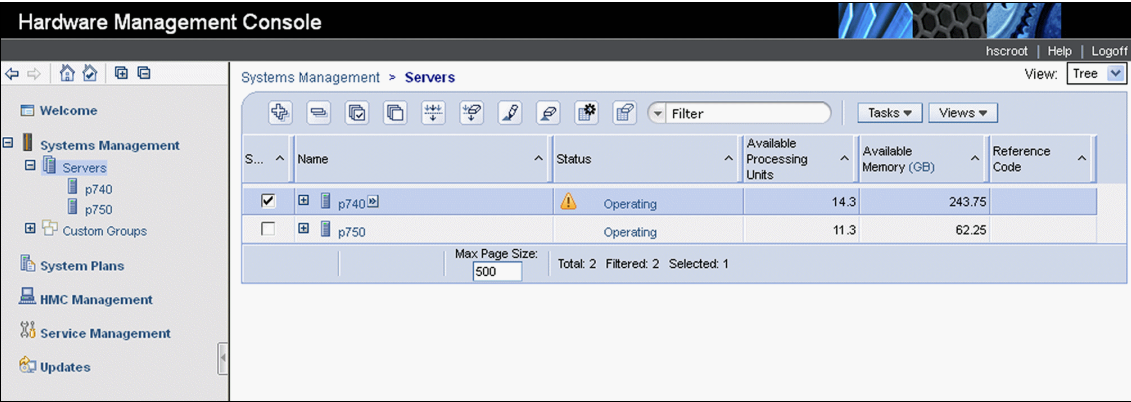

Figure 15-9 Selecting a managed system in the HMC
1. In the Servers pane of the HMC, check the desired managed system check box, as shown in Figure 15-9.